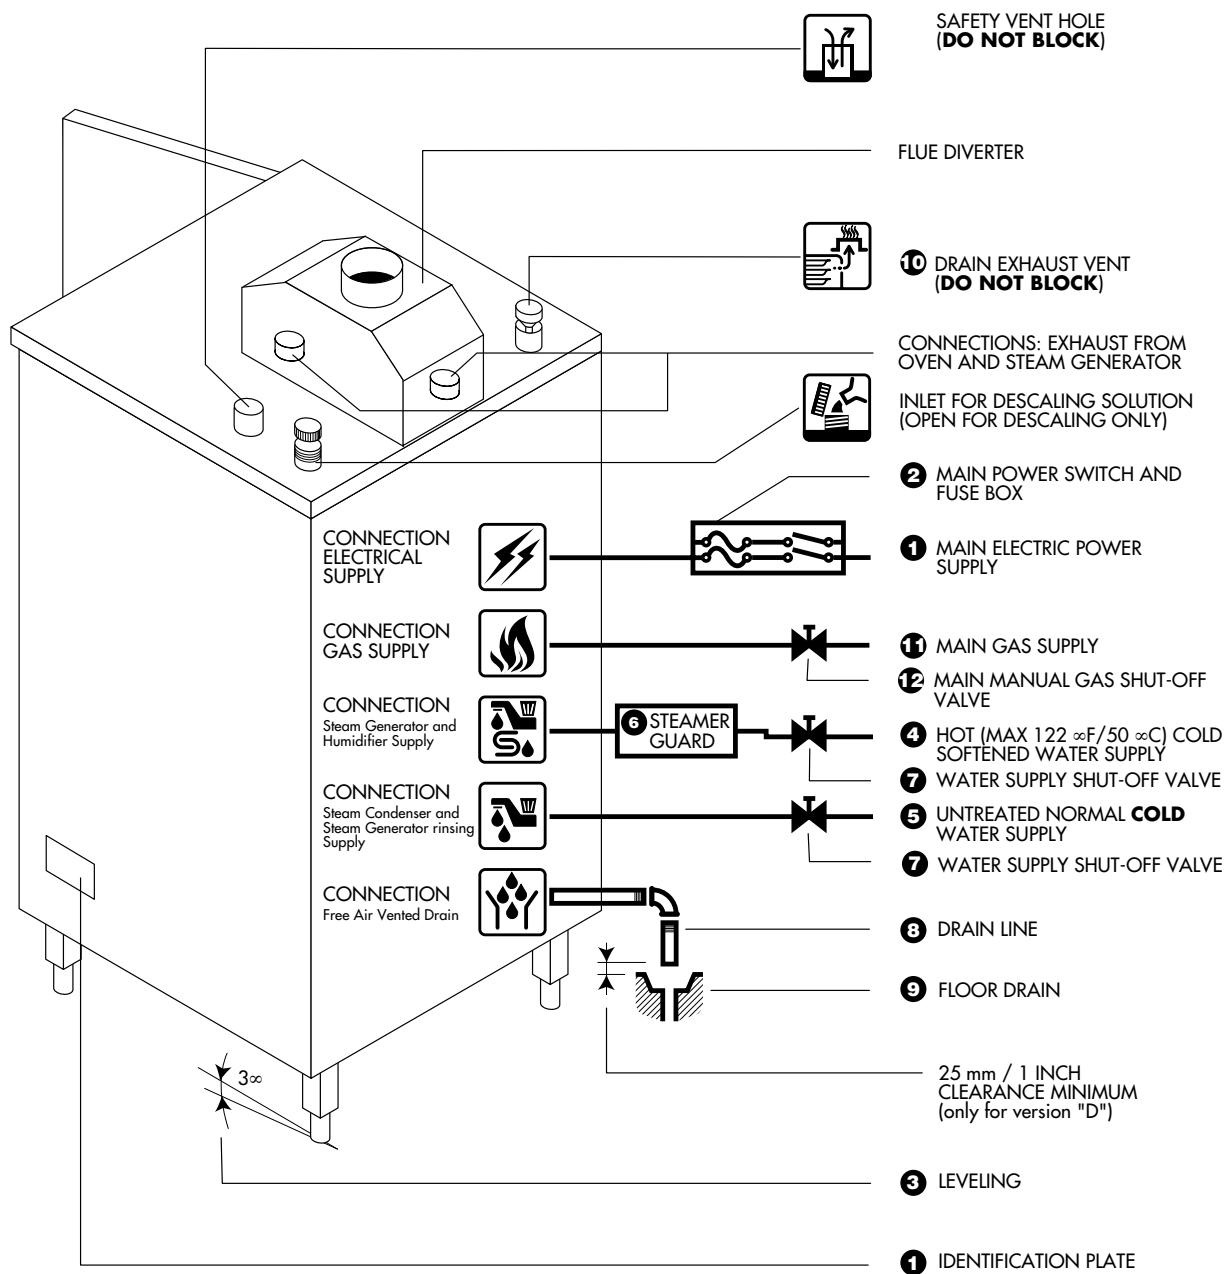

Figure 2-1
Installation of the Oven/Steamer is presented in two parts: preparation and installation. The Installation Check List, Table 2-1, lists the major tasks to be performed in a recommended sequence. Each item references the instructions for starting the task. Complete the preparation tasks in sequence, and then the installation tasks. Installation requirements may vary from site to site; adapt the check list accordingly. Schematic Installation Diagram, Figure 2.1, illustrates the utility lines and connections required to install the Oven/Steamer. The Dimension Drawings, Fig. 2-2, show the required utility connection points, dimensions, and clearances for each model.
- 12- Refer to figures 2-1 for the recommended component arrangements.